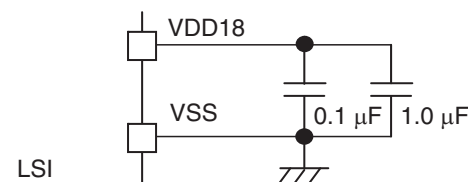

Figure:1.5.1 Capacitor Connection between VDD18 and VSS Pins
*3 Connect appropriate capacitor about 0.1 μF + 1.0 μF between V_{DD18} pin and V_{SS} pin, near the microcontroller according to the Figure:1.5.1 shown below for the internal power supply stabilization.